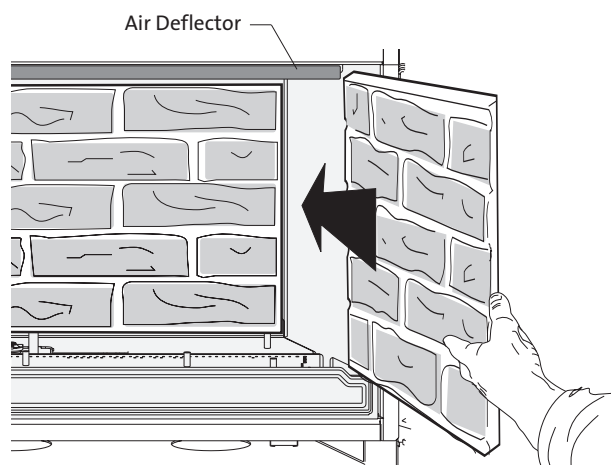

*Figure 20. Align the Rear panel mortar joints with those in the side panels.*
3. Install the Rear Panel. Orient the rear panel to align with the brick courses on the Side Panels as shown in fig. 20. Place the panel against the back wall of the firebox, resting on the log shelf as in fig. 21.